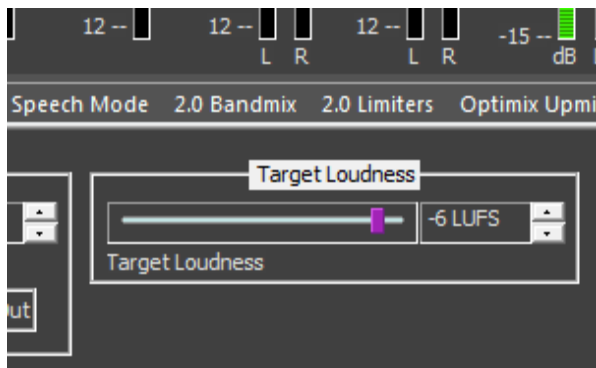
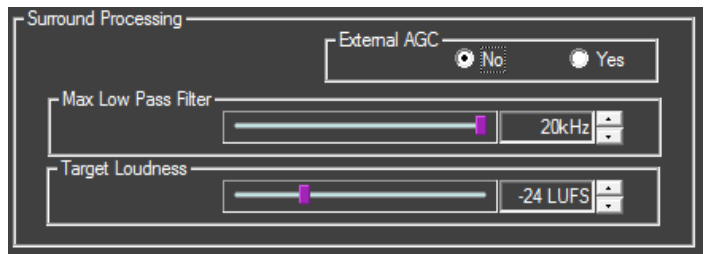

Figure 2-5: Target Loudness in Processing Preset
Figure 2-6: Target Loudness in I/O SETUP
**Radio-Style Presets:** Most non-TV presets have local TARGET LOUDNESS values (i.e. TARGET LOUDNESS in the LESS-MORE tab is not set to GLOBAL. We chose these values to represent competitive loudness/distortion trade-offs in traditional, non-R128 applications—their loudness is much higher than -23 LUFS and represents the typical loudness encountered in non-R128 netcasts. (See Figure 2-5 and Figure 2-6 on page 2-19.)